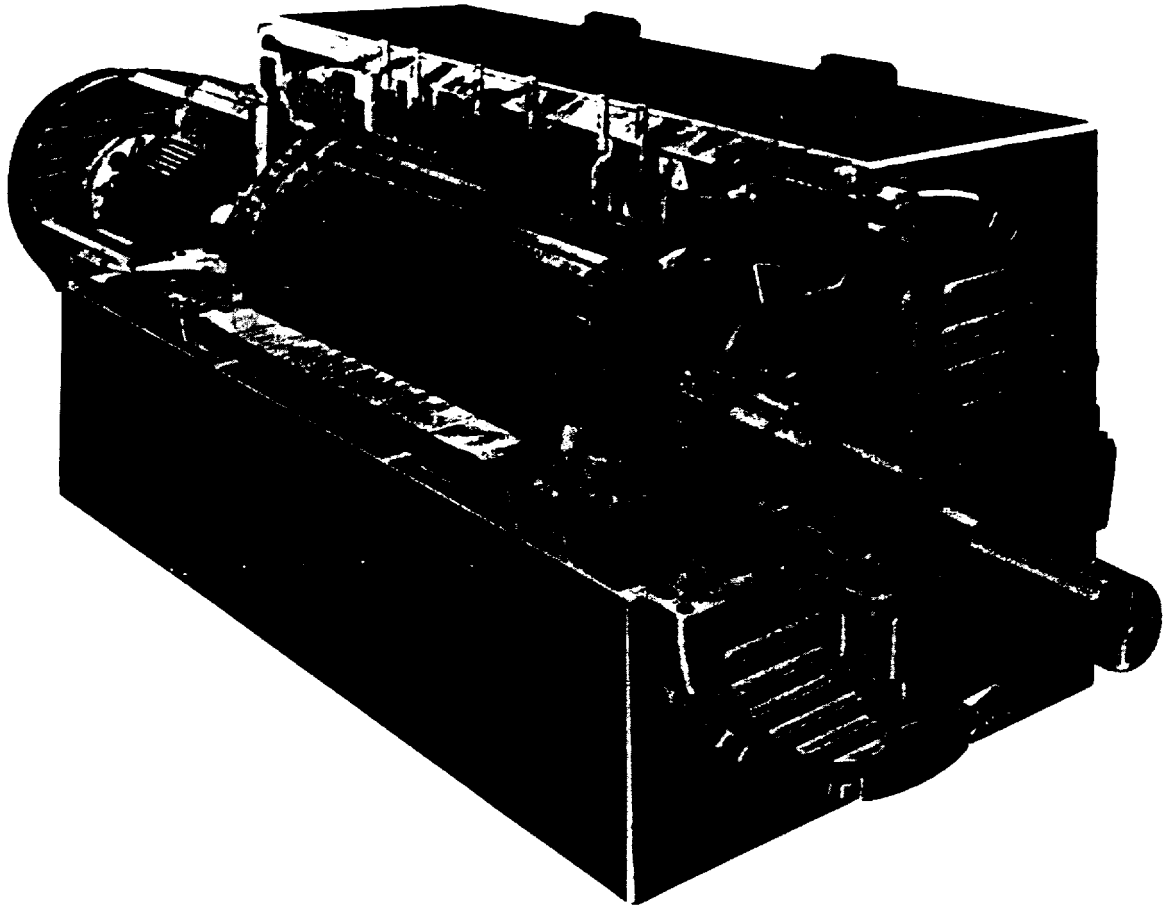

Figure 4-3. Cutaway view of synchronous motor.
c. *Synchronous unit.* This type of AC motor (fig 4-3) has an insulated winding in both the rotor and the stator. A variable source of DC excitation is supplied to the rotor winding and an AC line source is supplied to the stator winding. A synchronous motor is a constant speed machine with similar